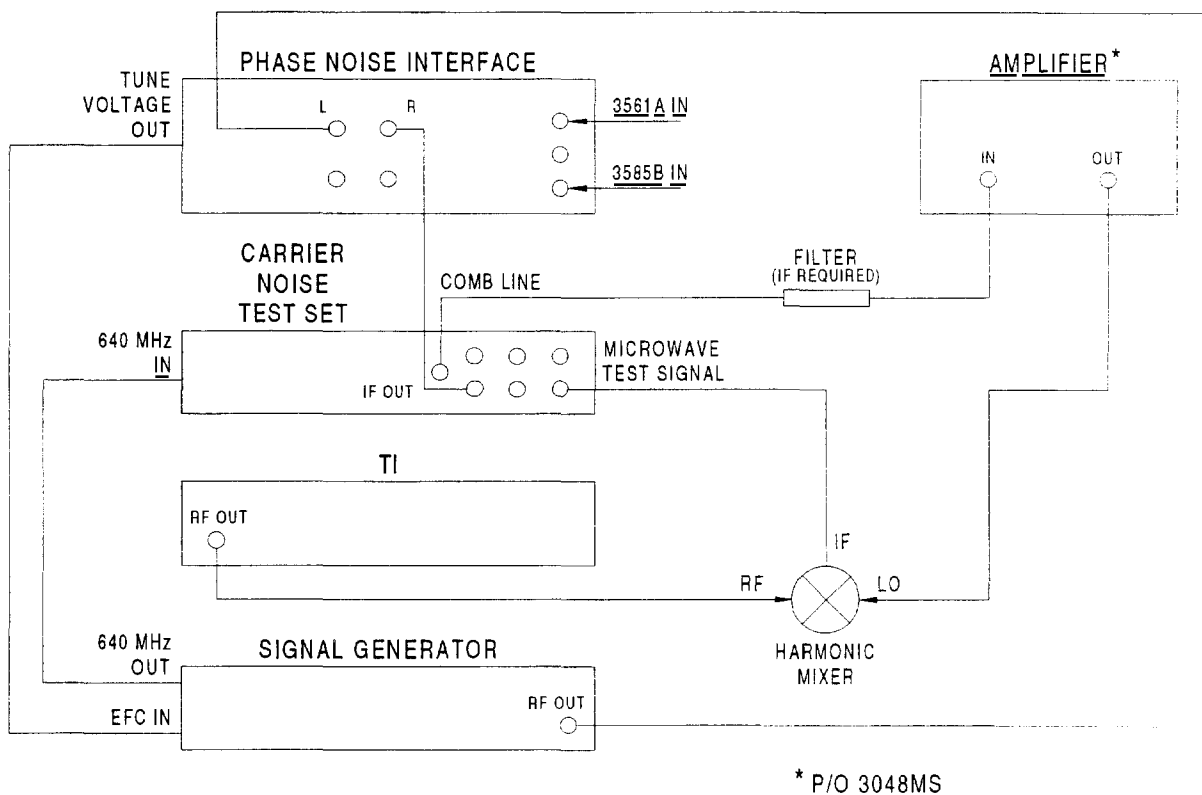

Figure 1.
4.2.32 Connect equipment as shown in Figure 1. Disregard the figure on the CRT. Set Carrier Noise Test Set Normal/mm switch to mm.